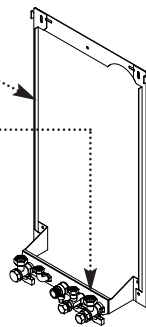

Fig. 42
1. Connect a tube to the central heating flow or return pipe (Fig. 42).